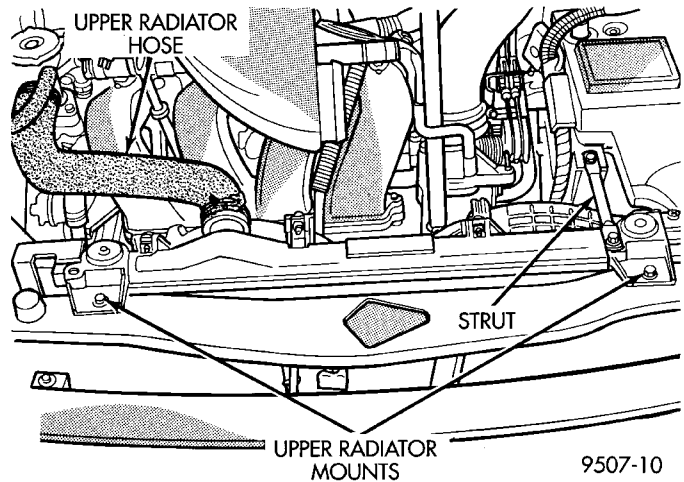
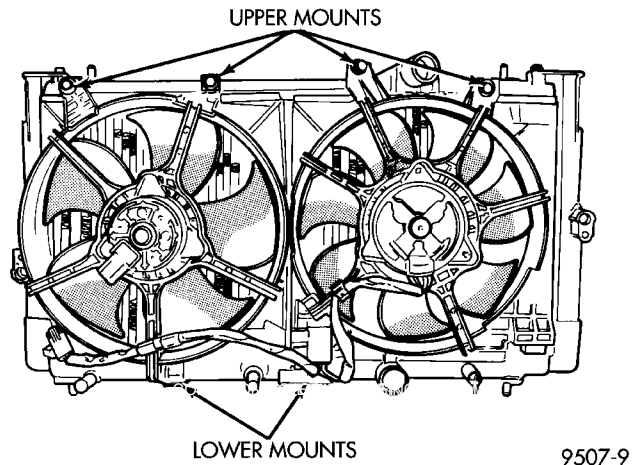
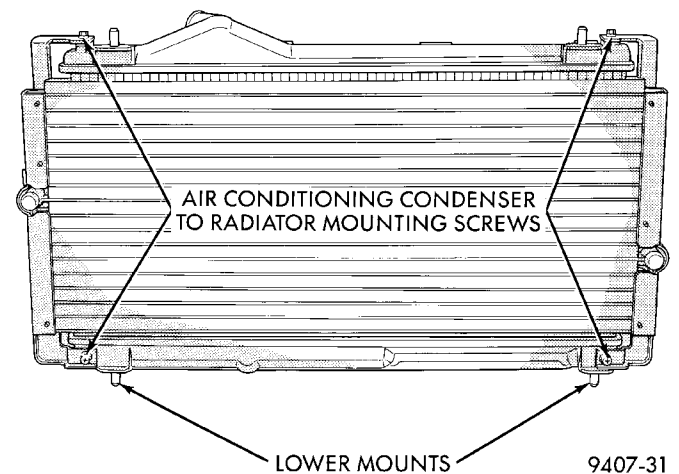

Fig. 20 Radiator Mounting
Fig. 21 Servicing Fan Module
Fig. 22 A/C Condenser to Radiator Mounting Screws
- (1) Disconnect negative battery cable from battery.
- (2) Drain cooling system. Refer to Draining Cooling System of this section.
- (3) Remove hose clamps and hoses from the radiator.
- (4) Disconnect automatic transmission hoses and plug off, if equipped.
- (5) Remove radiator to battery strut (Fig. 20). Remove fan module assembly by disconnecting fan motor electrical connector. Remove fan shroud retaining screws, located on the top of the shroud (Fig. 21). Lift shroud up and out of bottom shroud attachment clips separating shroud from radiator. For dual fan applications the left fan module may be removed first, then the right side module last. Fan damage should always be avoided.
- (6) Remove upper radiator isolator bracket mounting screws. Disconnect the engine block heater wire if equipped.
- (7) Remove the air conditioning condenser attaching screws located at the front of the radiator, if equipped (Fig. 22). Lean condenser forward, it is not necessary to discharge the air conditioning system to remove radiator.
- (8) Radiator can now be lifted free from engine compartment. **Care should be taken not to damage radiator cooling fins or water tubes during removal.**
- (1) Slide radiator down into position behind radiator support (yoke).
- (2) Attach air conditioning condenser to radiator if equipped (Fig. 22), with four mounting screws and
(3) Tighten radiator isolator mounting bracket screws to 7.4 N·m (65 in. lbs.). The radiator should have clearance to move up approximately 5 to 8 mm (0.25 in.) after assembled.
(4) Connect automatic transmission hoses, if equipped. Tighten hose clamps to 4 N·m (35 in. lbs.).
(5) Slide fan module down into clip(s) on lower radiator flange (Fig. 21). For dual fan application install the right fan module first and then the left fan module. Install retaining screws and tighten to 5.4 N·m (50 in. lbs.).
(6) Install radiator hoses and coolant reserve hose align hoses and position hose clamps so they will not interfere with the engine or hood.
(7) Connect fan motor electrical connection and connect negative battery cable.
(8) Fill cooling system with coolant. Refer to **Refilling Cooling Systems** in this group.
(9) Operate engine until it reaches normal operating temperature. Check cooling system and automatic transmission for correct fluid levels.